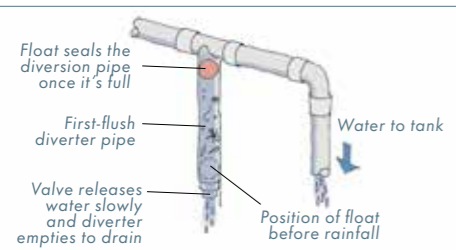

Figure 3 – First-flush diverter
- Install a first-flush diverter to divert the first water from the gutter away from the storage tank (Figure 3 overleaf).
First-flush diverters prevent the first rainfall – containing dirt, debris and contaminants from the roof – from entering the storage tank by diverting it into a separate chamber (see Figure 3).